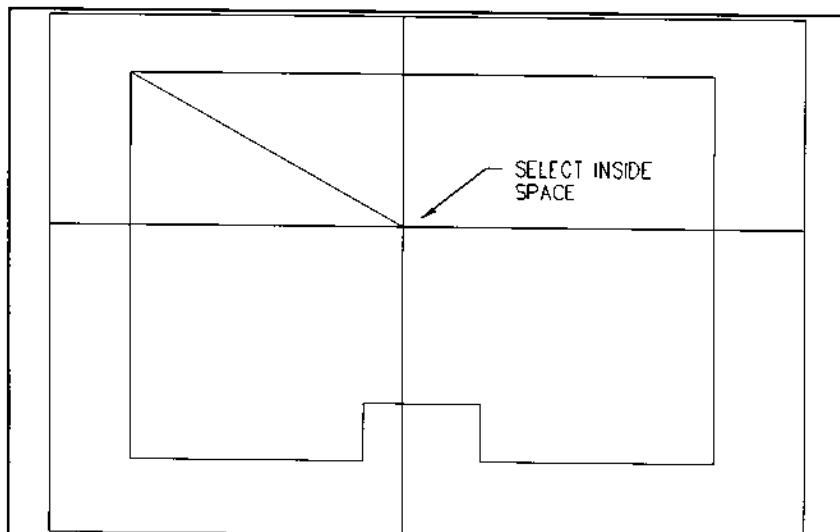

Figure 9.
- > Indicate inside the space: **[select a point inside the building as shown in Figure 9]**